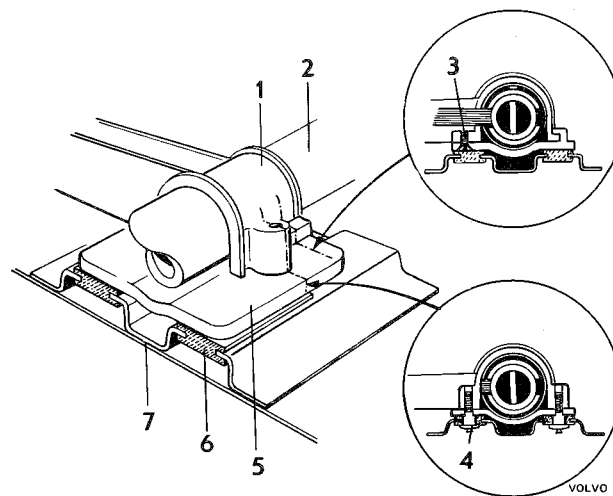

Fig. 6-55. Upper attachment
3. Remove the collars on the shear-off bolts (4, Fig. 6-55). Start with a smaller drill and finish up with, e.g., a 13 mm ( $1/2$ " ) drill. The bolt guide has a diameter of 12 mm ( $15/32$ " ).
4. Remove the attaching bolts and also the left impact guard and side member (7) with slide piece (6).
5. Screw out the crosshead screw (3) and unhook the attaching plate (5).
1. Fit the new steering wheel lock and electrical section in position. Hook on the attaching plate (5, Fig. 6-55) and screw in the crosshead screw (3). Check the locking function.
2. Install the side member (7) with a slide piece (6) in good condition. Fit the impact guard.
3. Install the shear-off bolts (4) but do not shear off the heads.